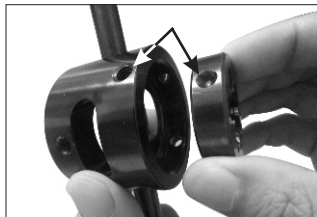

Fig.2-2
2. Take out the threading die by loosening the set screws. Align the mounting holes when installing the required die. (Fig.2-2)